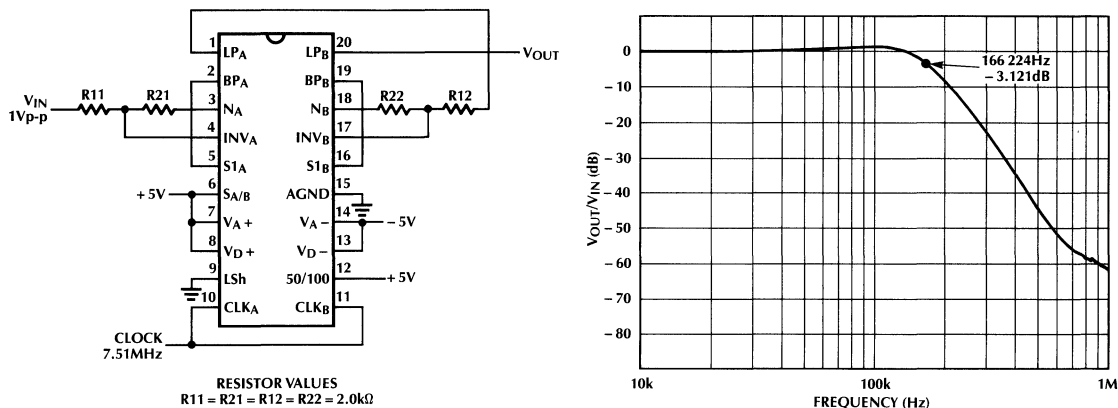

Figure 33. Cascading Two Sections in Mode 1d, Each With  $Q = 1$  (Independent of Resistor Ratios) Creates a Sharper 4th Order Lowpass Filter
The input impedance of the S1 pin is clock dependent, and in general R5 should not be larger than 5k for fCLK < 2.5MHz and 1k to 2k for fCLK > 2.5MHz. Mode 1b can be used to increase the clock to center frequency ratio beyond 100:1. For this mode, the limit for the (fCLK/f0) ratio is 500:1. Beyond this, the filter will exhibit large output offsets. Mode 1d, Figure 19, is the fastest mode of operation: In the 50:1 mode center frequencies beyond 150kHz can easily be achieved. Figure 33 is an example using mode 1d of a 4th order filter where each section has a Q of 1 independent of resistor ratios. In this mode the input amplifier is outside the damping (Q) loop. Therefore, its finite bandwidth does not degrade the response at high frequency. This allows the amplifier to be used as an anti-aliasing and continuous smoothing filter by placing a capacitor across R2.